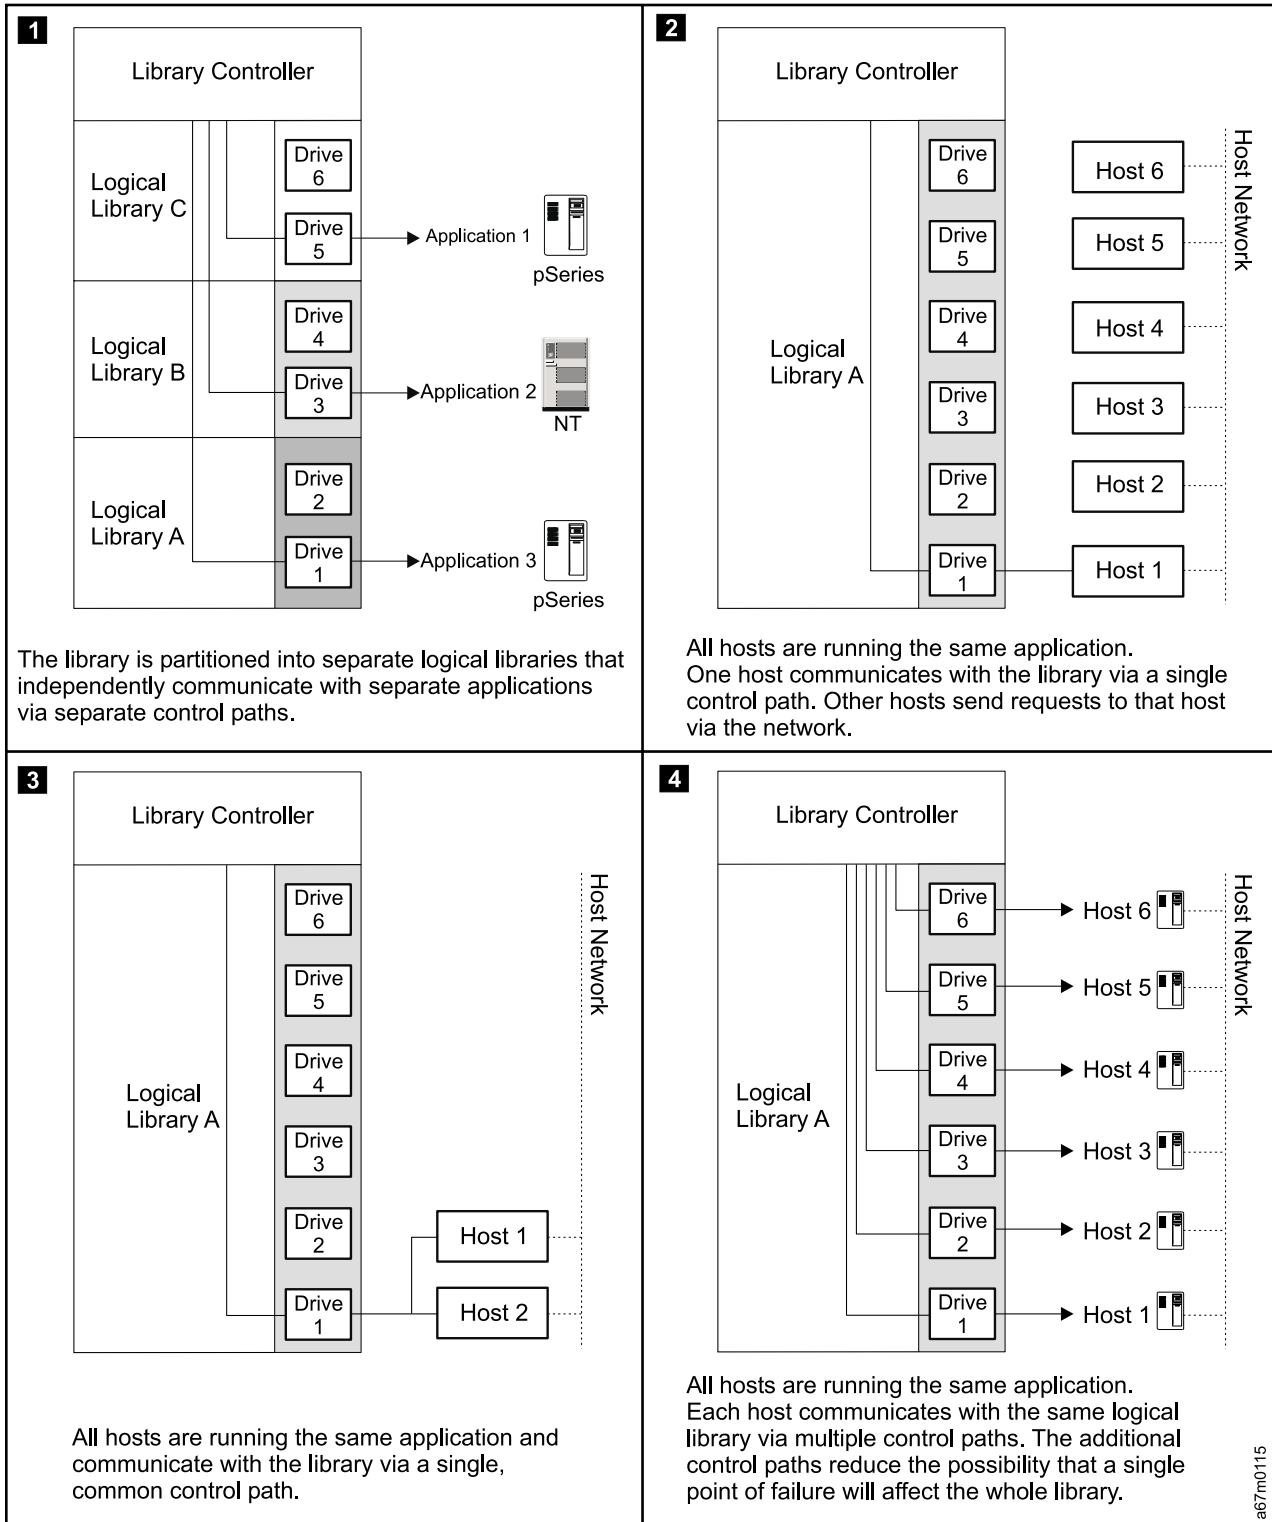

Figure 10. Examples of configurations for a Ultrium Scalable Tape Library. Lines from one or more drives to the library controller represent control paths.
- Configure the library so that it is partitioned into separate logical libraries that independently communicate with separate applications through separate control paths. This configuration (see example **1** in Figure 10 on page 20) requires no special capabilities from the server or application. (For more information, see “Using Multiple Logical Libraries” on page 21.)
- Configuring one server (host) to communicate with the library through a single control path; all other servers send requests to that server through a network (see example **2** in Figure 10 on page 20). This configuration is used by Tivoli® Storage Manager (TSM).
- Configuring all of the servers to communicate with the library through a single, common control path (see example **3** in Figure 10 on page 20). This configuration is used in high-availability environments such as IBM's High Availability Clustered Microprocessing (HACMP) and Microsoft's Systems Management Server (SMS) and Clustered Server Environments. Multi-initiator configurations are only supported by certain adapters and ISVs. Check with your ISV.
- Configuring a single logical library to communicate with multiple servers through multiple control paths. This configuration (see example **4** in Figure 10 on page 20) requires that you add control paths (see “Using Multiple Control Paths” on page 22). It is used by Backup Recovery and Media Services (BRMS).